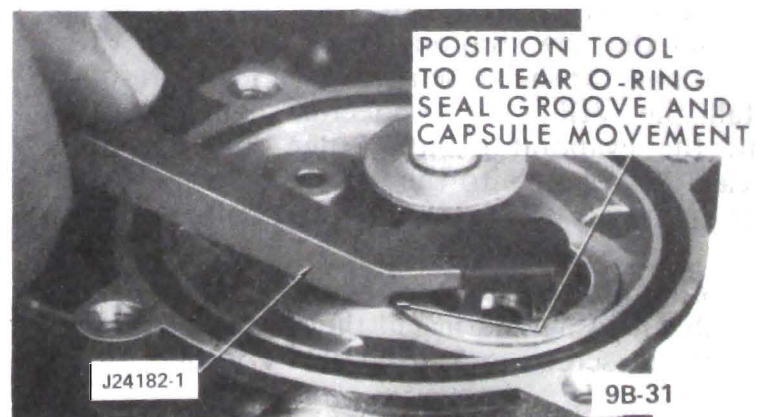

Figure 9B-35 Removing POA Valve Capsule with Removal Tool
6. Loosen the TX valve and POA valve capsule retaining screw and washer assemblies and partially remove one of the screw and washer assembly 3 turns. Remove the other screw and washer assembly entirely. See Figure 9B-35.
7. Insert the POA valve capsule removal tool J24182-1 into the valve baffle of the POA valve, Figure 9B-35, so that the step edge of the tool clears the edge of the POA valve capsule.